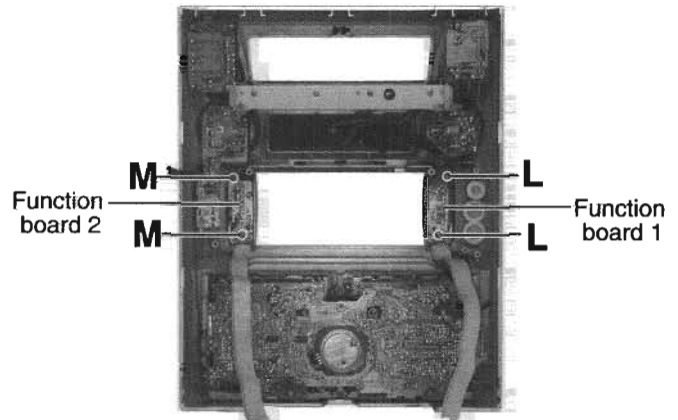

Fig.17
■ Removing the boards in the front panel assembly (See Fig.17 to 18)
— Function board1 (See Fig.17)—
— Function board2 (See Fig.17)—